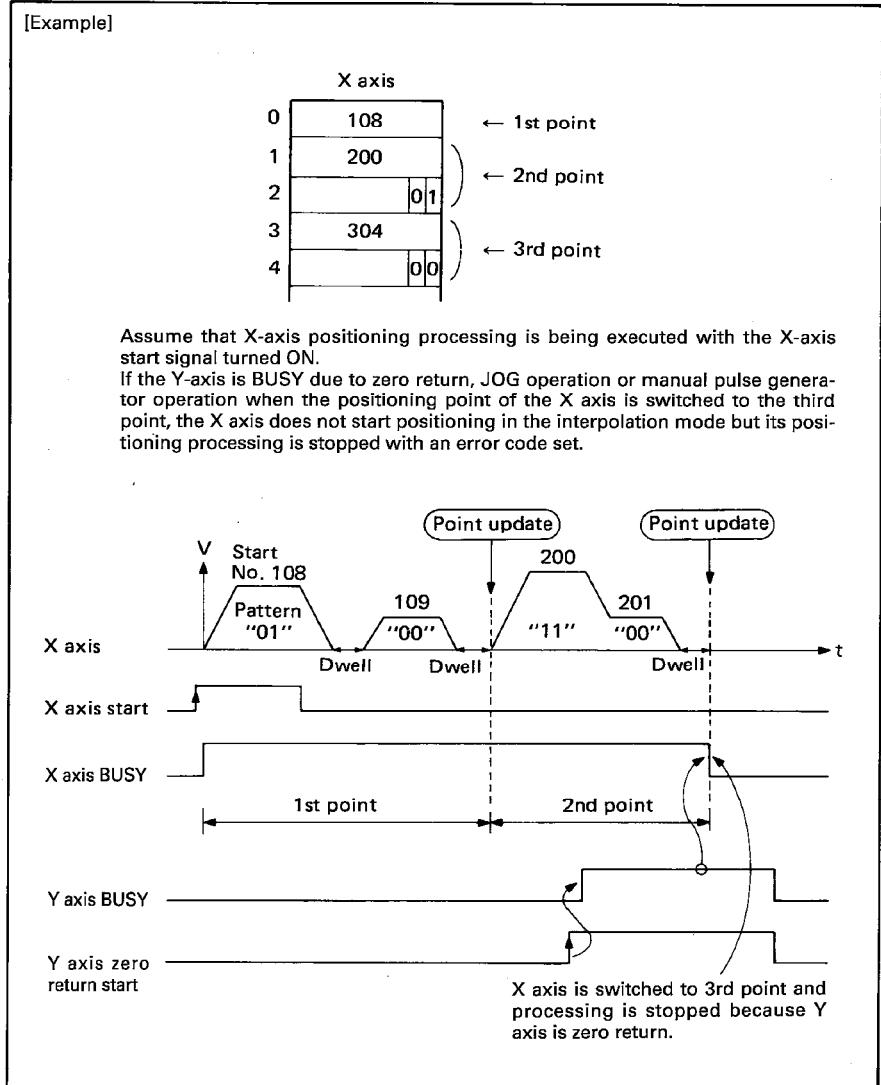

Fig. 2.34 Start Data Example 4
- 4) If the interpolation start (00) or both-axis start (11) is set for the start axis of either of the two axes, an error occurs and positioning processing of that axis is stopped if the mating axis is BUSY in other than positioning (See Fig. 2.34.).